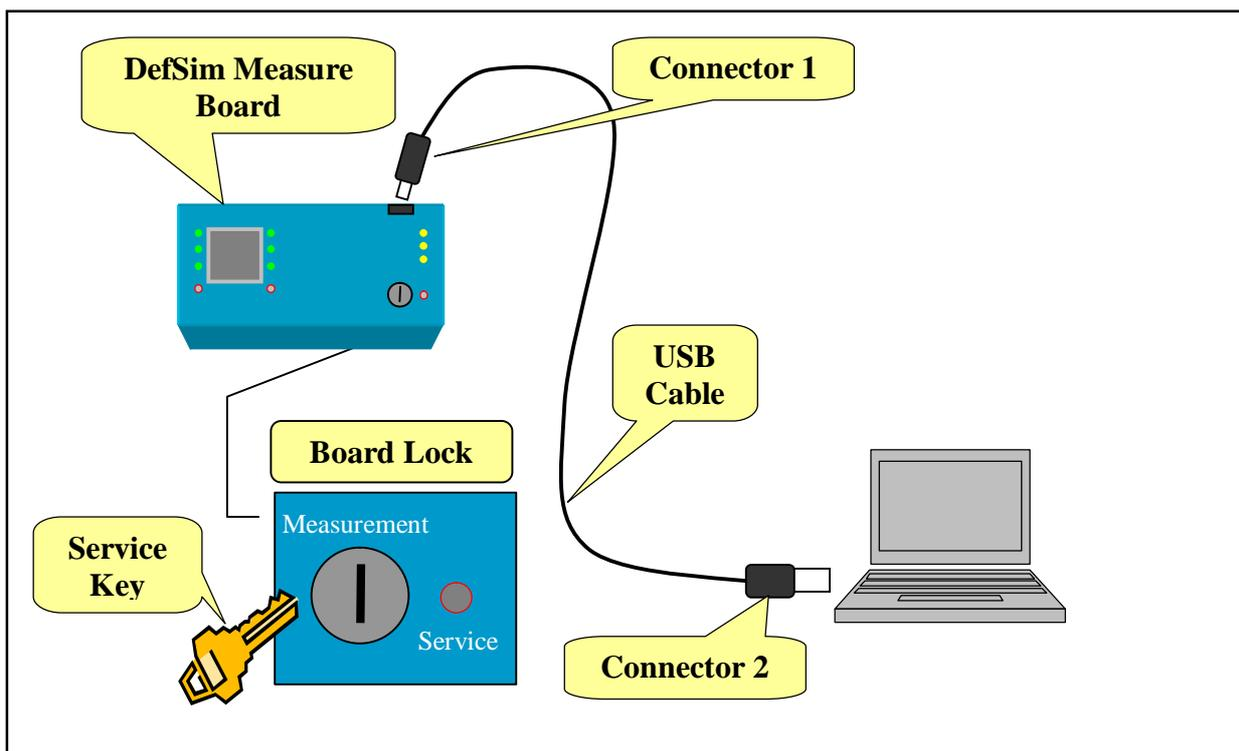

Fig. 3 – DefSim hardware installation
*DefSim Personal* hardware package consist of the following items (see Fig. 3):
**Note:** before *DefSim Measure Board* will be plugged into computer, please check that the board lock is in the “*Measurement*” position (see Fig. 3). If not, use the service key to switch to the “*Measurement*” mode as it shown below. When the board is in the “*Measurement*” mode, the “*Service*” red indicator will not be lighted up. Service mode should be used only for re-configuring board internal firmware at the authorized service center.